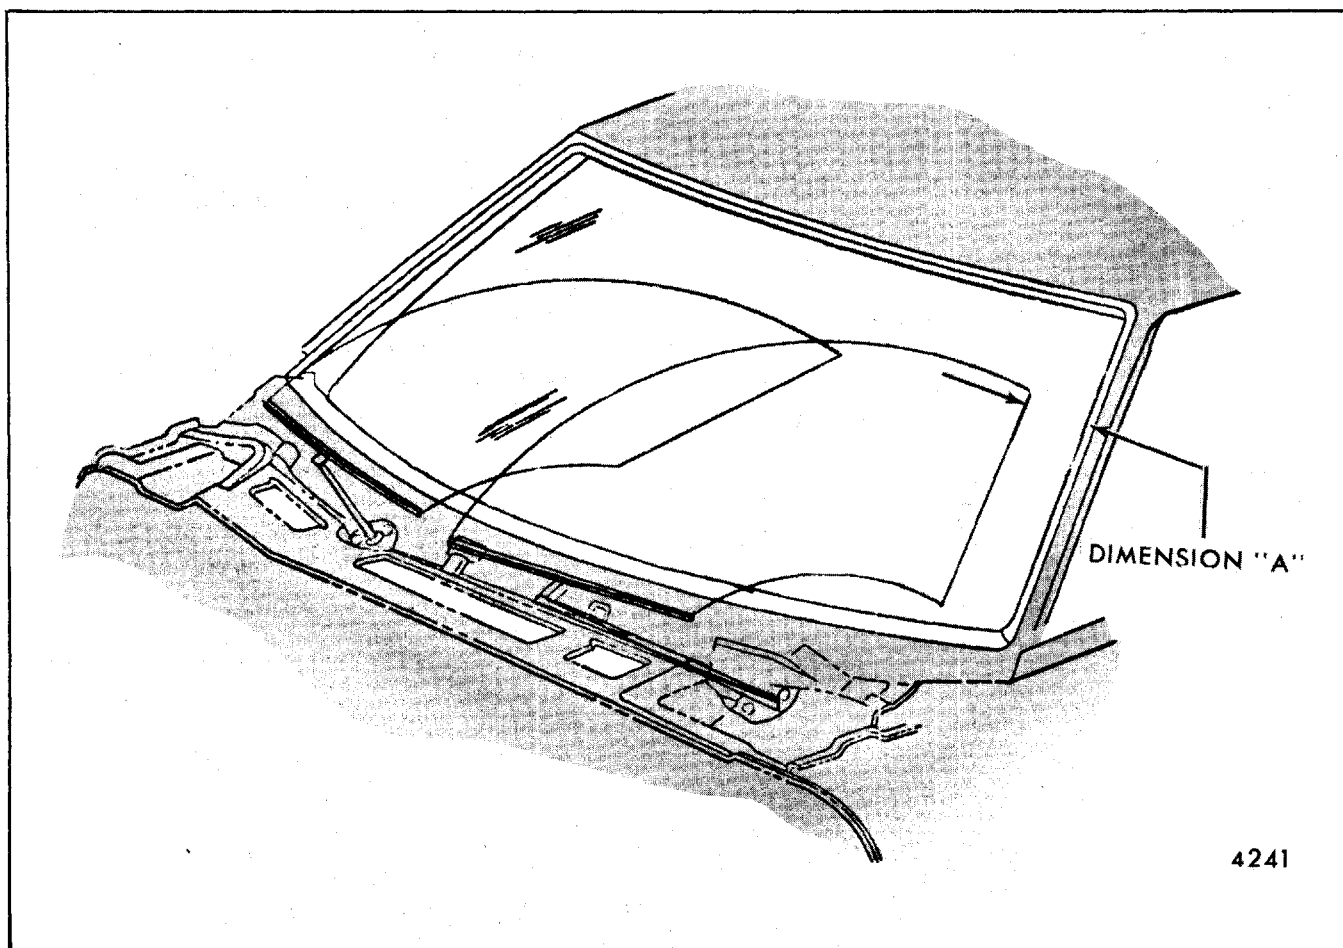

Fig. 2-40-Wipe Pattern
8. Check wipe pattern and park position. Dimension "A" as shown in Figure 2-40 for various body styles is as follows: